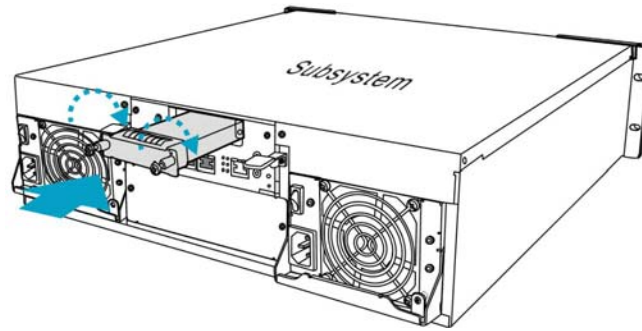

Figure 2-4: Installing the BBU Module
Step 5. **Secure the BBU module to the chassis.** Fasten the two (2) retention screws on the BBU module to secure the BBU module to the chassis. (See *Figure 2-4*)